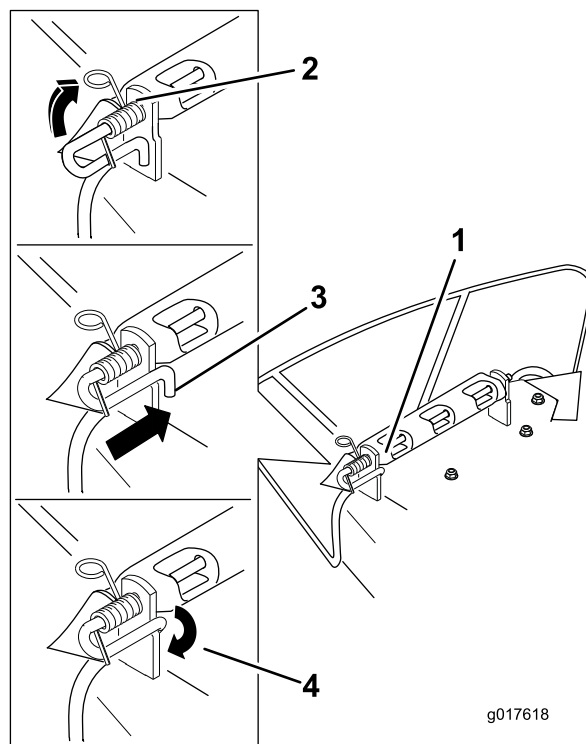

Figure 63
- Position the new discharge deflector with the bracket ends between the welded brackets on the deck as shown in Figure 63.
- Lift the loop end of the spring and place it into the notch on the deflector bracket (Figure 63).